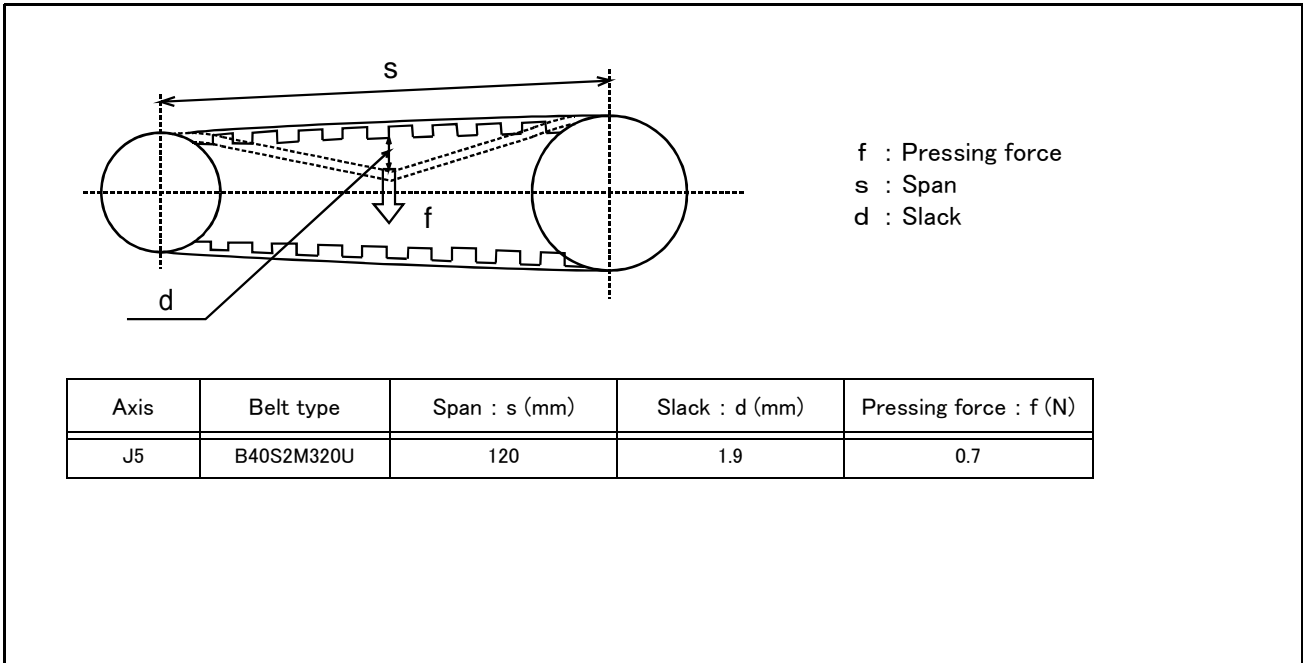

Fig.5-7 : Belt tension
- 2) Refer to "5.3.2 Installing/removing the cover" on page 48, and remove the No. 2 arm cover (U), (L).
- 4) Confirm that the belt tension is adjusted to slacken approx. 1.9mm when the center of the belt is lightly pressed with a finger (approx. 0.7N) as shown in "Fig.5-7 : Belt tension".
The timing belt can satisfactorily convey the drive and keep a durable force only when it has an adequate tension. The belt tension should not be too tight or too loose. Instead, it should be adjusted to a degree that elasticity is felt when the belt is pressed with the thumb. If the belt tension is too weak, the belt loosening side will vibrate. On the other hand, if the belt tension is too strong, a sharp sound will be heard and the belt tension side will vibrate. The detailed adjustment (tension) is shown in Fig. 5-7. Check and adjust with the belt pressing force f and the slack amount d between span s.